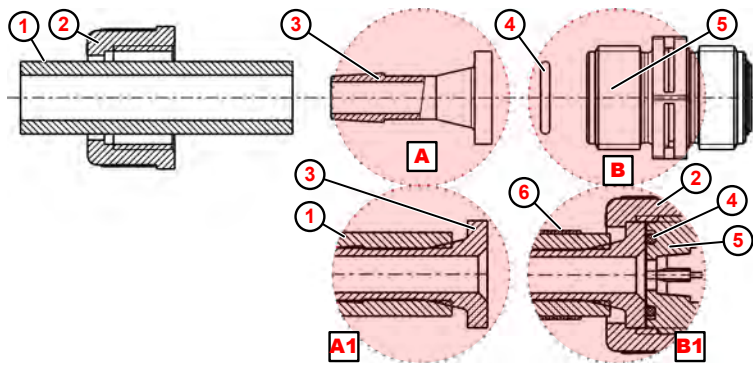

Fig. 9: Pipe and hose connection with attachment nipple and hose clamp
1. ➤ Cut off the hose with a straight cut ( Fig. 9 , ① ).
2. ➤ Slide the hose clamp ⑥ over the hose ①
3. ➤ Slide the union nut ② over the hose ① .
4. ➤ Slide the hose ① onto the attachment nipple ③ up to the stop collar (for details, Ⓐ1 ).
5. ➤ Place the o-ring ④ in the groove of the suction or pressure valve ⑤ .
6. ➤ Tighten the union nut ② .
7. ➤ Push the hose clamp ⑥ downward and tighten (for details, Ⓑ1 ).